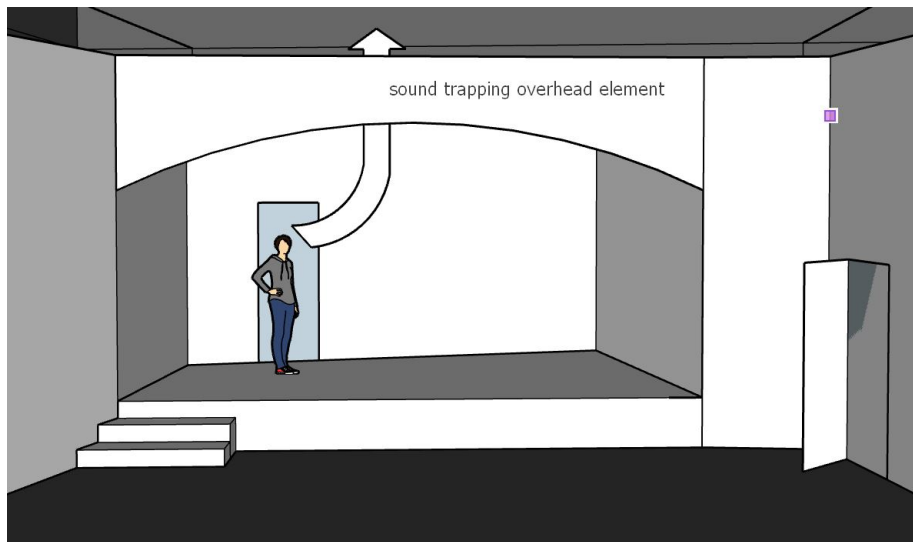

Fig. 3
- c) Major overhead set elements may also create a sound trap so that the dialogue is trapped upstage and is lost. (*Fig. 3*)